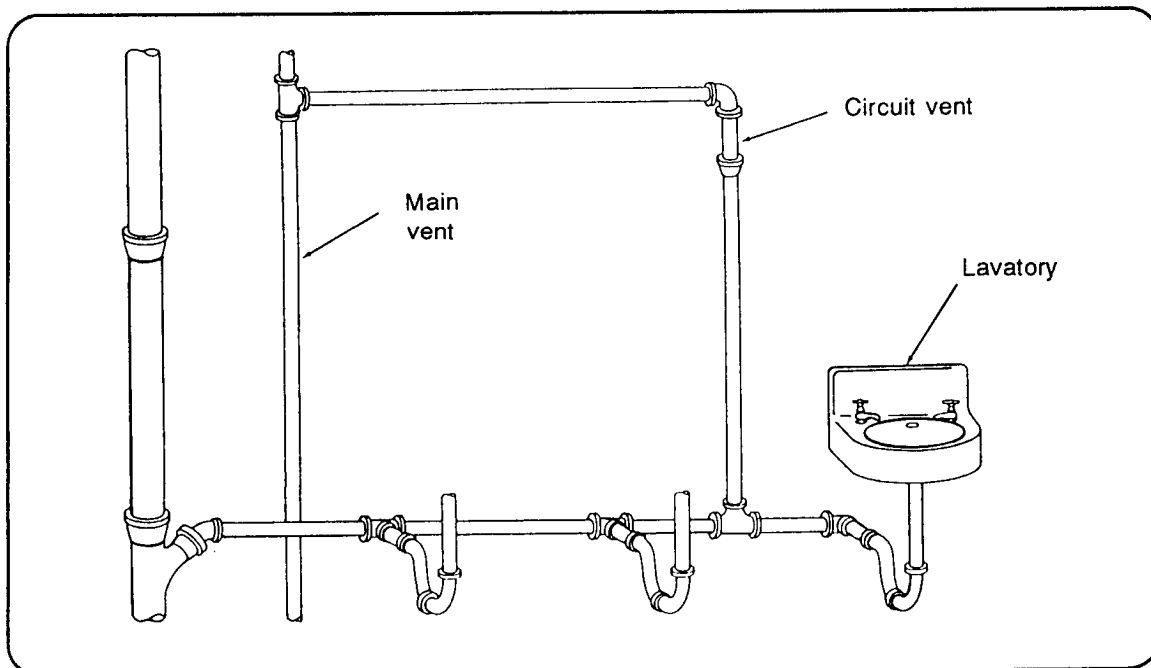

Figure 9-11. Circuit venting with lavatories
d. *Circuit Vent.* The circuit vent (Figure 9-11) extends from the main vent to connections on the horizontal soil or waste branch pipe between the fixture connections. This vent is used in buildings having a battery of two or more fixtures, such as lavatories. A maximum of eight fixtures are permitted on any one circuit vent. The circuit vent is usually installed between the next to the last and the last fixture on the line. Since some fixtures discharge their waste through a part of the pipe that acts as a vent for other fixtures, the vent may become clogged. Reduce clogging by connecting the vent into the top of the branch rather than its side. Water and waste from the last fixture scours the vents of the other fixtures.